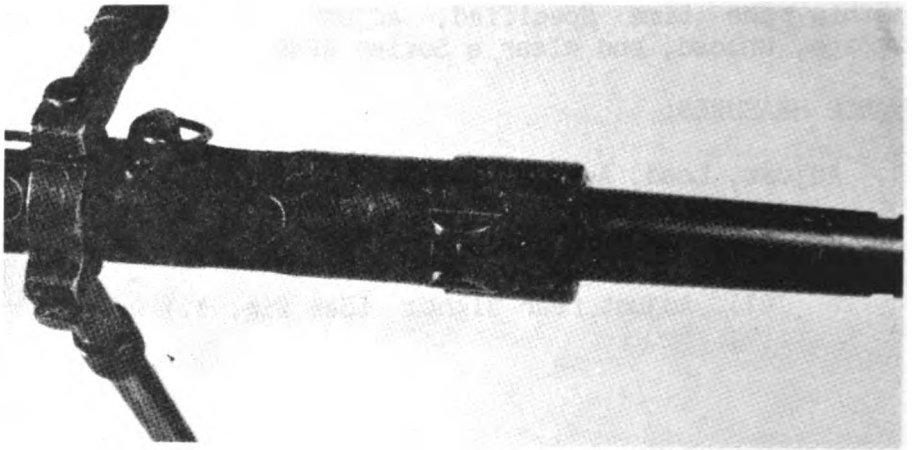

Figure 2
- (2) Adjust front sight: (See fig. 2.)